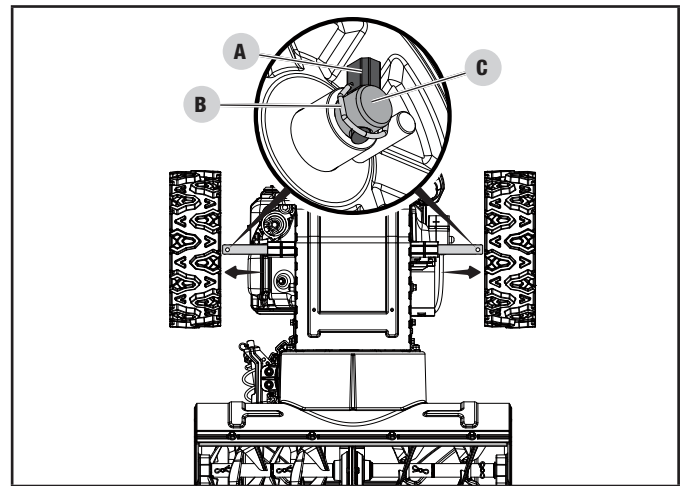

Figure 43
2. To make the access to servicing or replacing the friction disc, remove the wheels from both sides. For each wheel, locate the pin (A) holding the wheel on. Take note of the orientation of the pin, with short side of beveled end toward the end of shaft, to facilitate the lift ring to swing closed. Lift the ring (B) around the axle (C) and then pull the pin (A) out holding the wheel on (Fig. 43). Repeat on the other side. Remove the wheels.